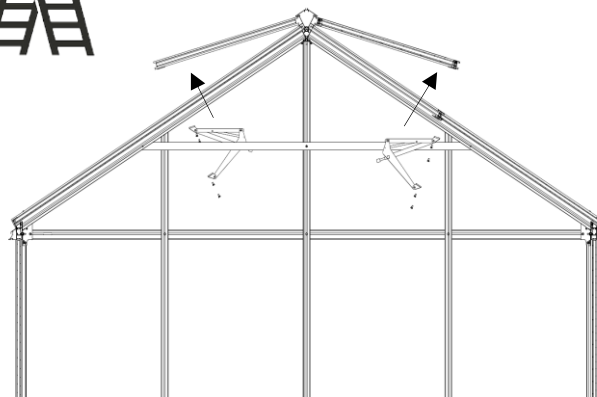

fig. 64
- the two automatic window openers (item AFÖ) are mounted to the connecting plate of the roof window (item DF) and the crossbar (item 10.1) with four hexagon head screws M6x12 (item B30.1/ S1) each. (fig. 64/65)